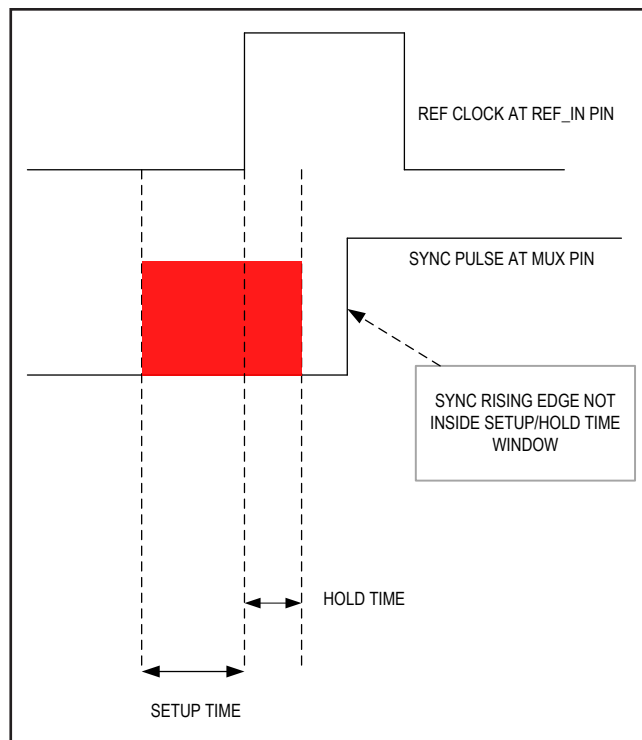

Figure 7. Setup Time/ Hold Time Window
5. At each MAX2871 REF\_IN pin and MUX pin, the sync rising edge can **NOT** occur inside the setup hold time window around reference signal rising edge. Refer to Figure 7.